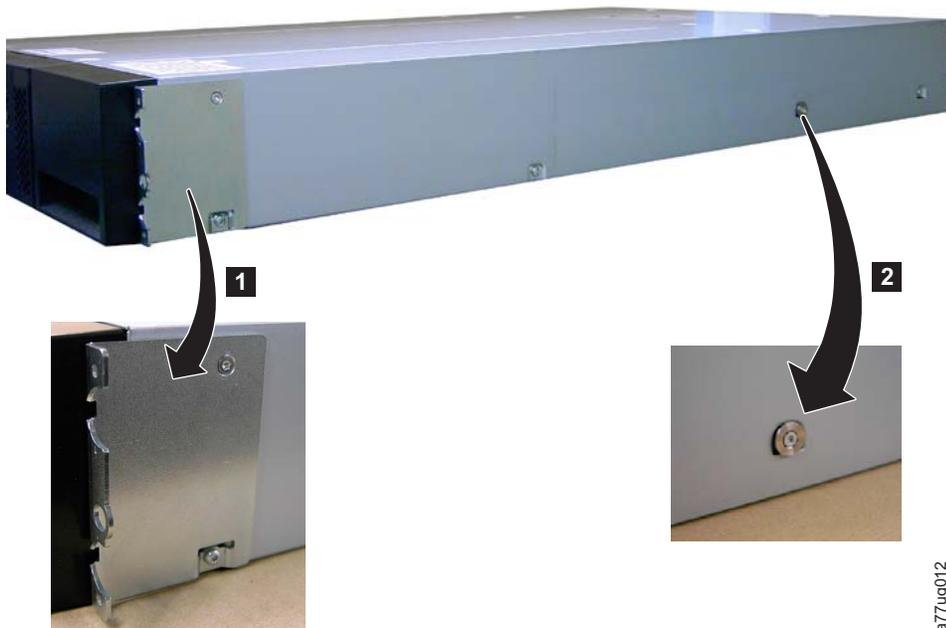

Figure 10-27. Mounting brackets and anchors for securing the library in a rack (one bracket and anchor on each side of the library)
1. Remove the mounting brackets ( **1** in Figure 10-27) and anchors ( **2** ) from each side of the defective library and install them on the replacement library enclosure.